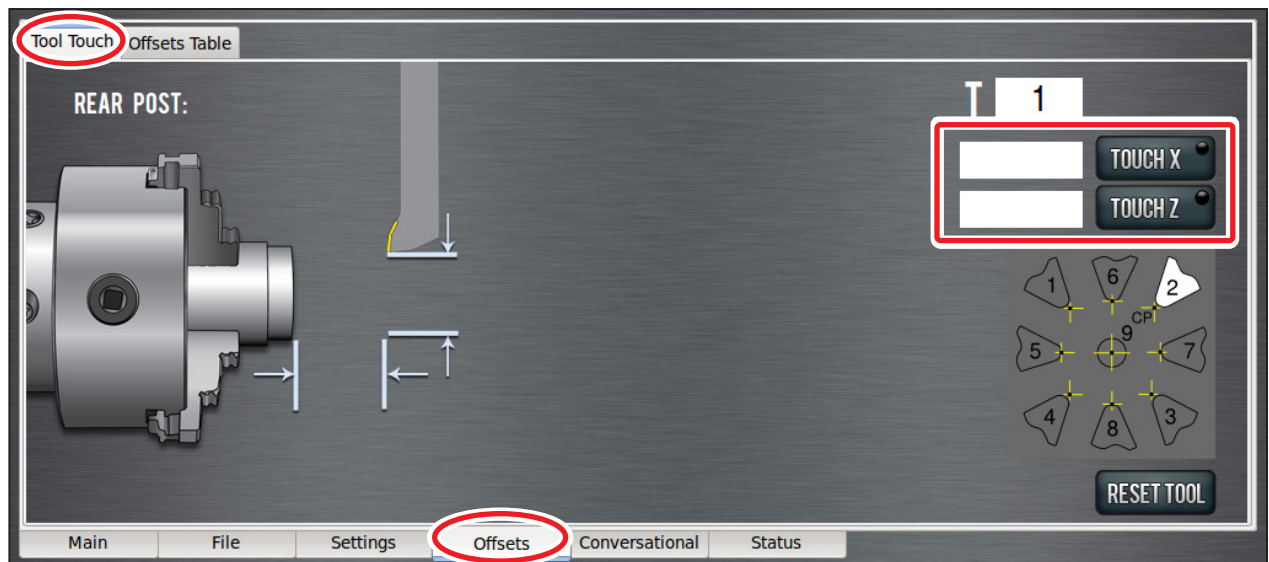

Figure 4.17
11. Measure diameter of skim cut on workpiece with a micrometer (see **Figure 4.16**); enter value in *Touch X* DRO on the *Offsets* screen's *Tool Touch* tab and click *Touch X* (see **Figure 4.17**). An illuminated LED button indicates that a tool offset has been set for that tool.
16. Enter 0 in Touch Z DRO; click Touch Z (see **Figure 4.17**). Use faced end of workpiece as Z-zero reference surface for all subsequent tools.